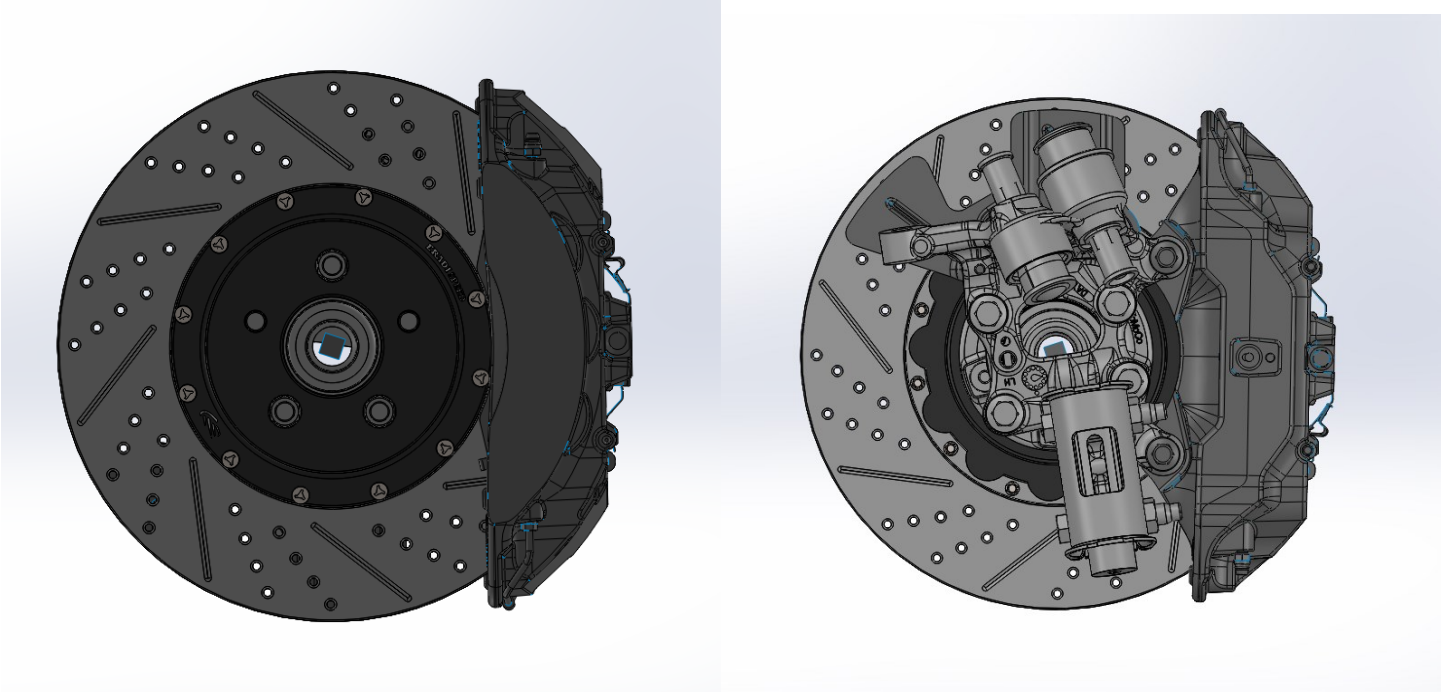

Figure 5. Reinstallation of the caliper
2. Carefully reinstall the caliper to the knuckle using the existing hardware removed in step 3 on the previous page (Figure 5).